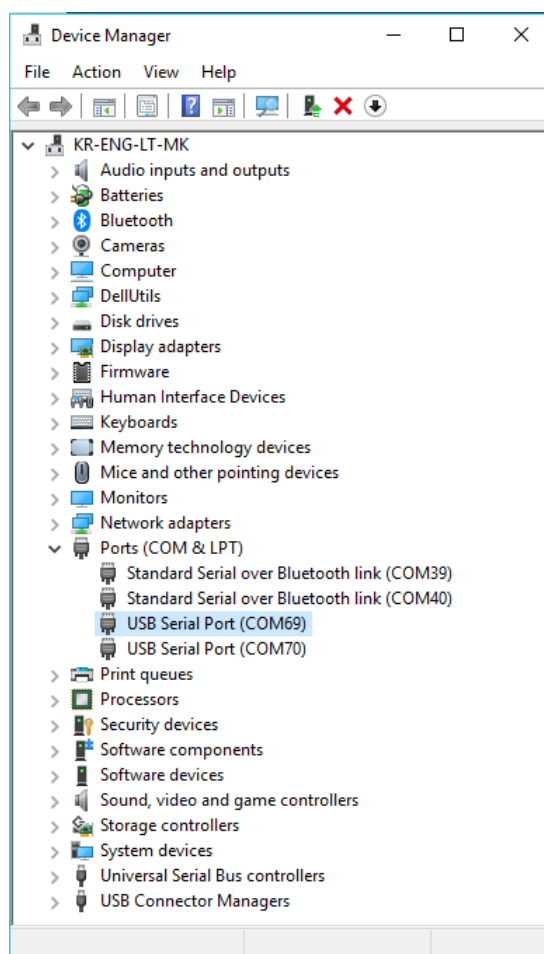

Figure 2: Check COM Ports on Device Manager
There are two virtual COM ports created by the Windows driver. The first COM port (lower number, COM35 in Figure 2) provides a UART interface for debugging or firmware download between the PC
and the DA161200. The second (higher number, COM70 in Figure 2) is used for AT COMMAND as shown in Figure 2.
2. Make sure that the PC discovered the two serial ports in Windows Device Manager as shown in Figure 2. The higher COM port number is connected to UART1.